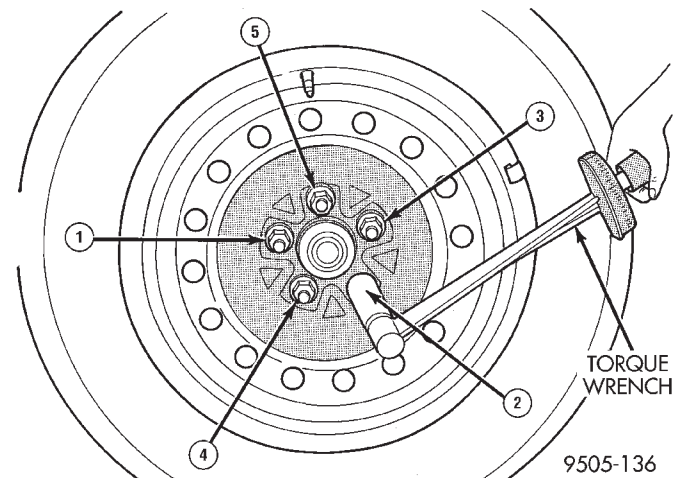

Fig. 26 Wheel Lug Torquing Sequence
(16) Install front wheel and tire assembly. Install front wheel lug nuts and tighten in the correct sequence (Fig. 26). Tighten lug nuts to 135 N·m (100 ft. lbs.).